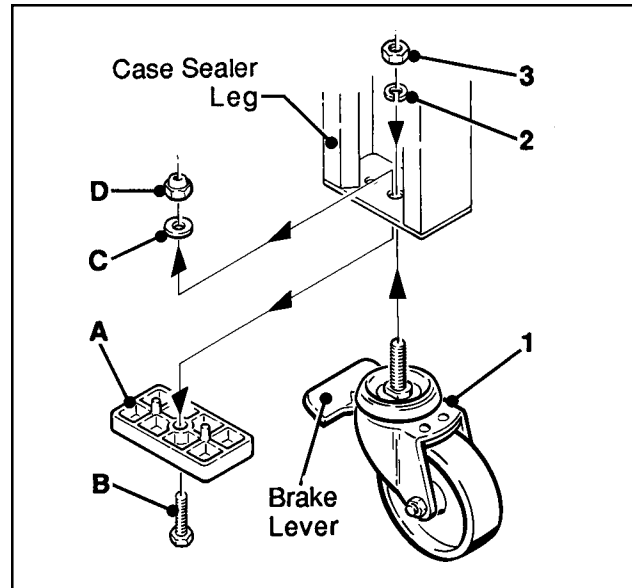

Figure 1 – Caster Installation and Parts Illustration
1. Refer to Parts Illustration Figure 1 to find part needed and reference number.
Refer to figure 1 and follow the instructions below to install the casters.
1. After positioning the case sealer in the desired location, the casters can be locked by pushing down on the brake lever shown in Figure 1.